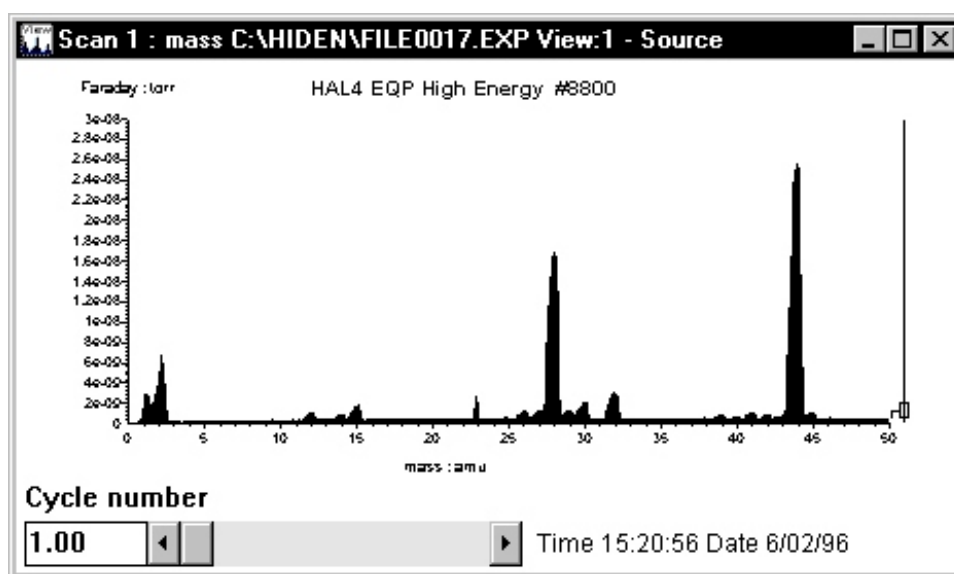

Figure 7.26 View with Historical data scroll bar
- Historical data** This is used to look at data already acquired; a scroll bar is added to the view which allows the time scale of the X-axis to be scrolled backwards and forwards, see Figure 7.26. The scroll bar can be used to move through the data, alternatively, a specific cycle number can be typed in the **Cycle number** text box.